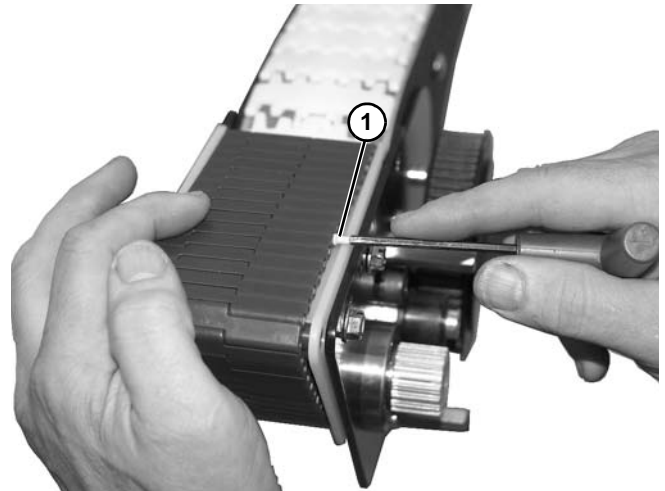

Figure 159
7. Bring ends of belt together and install pin (Figure 159, item 1).